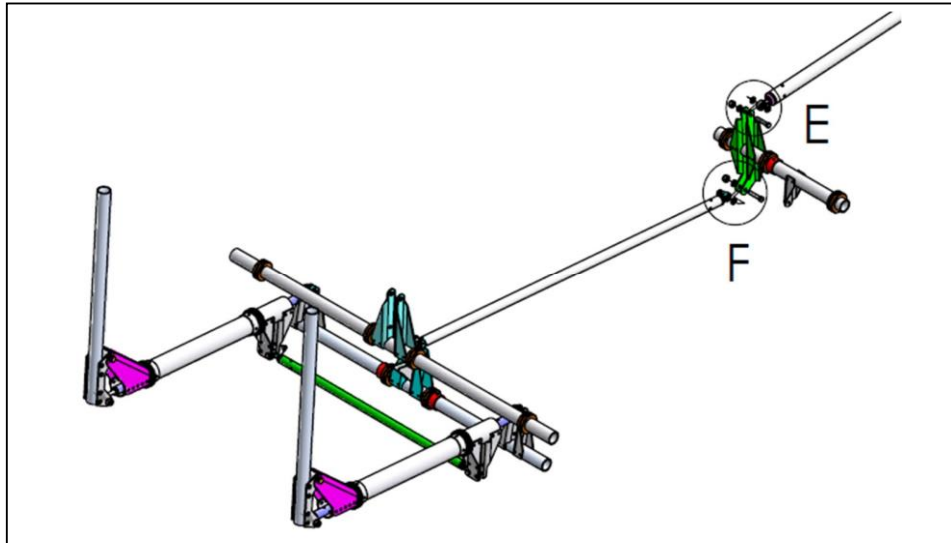

Figure 26
- Step 8. Next, the eyebolts seen in Detail E and F in Figure 26 will need to be inspected and replaced if found to be of *noncompliant*. To access these in the Sling 4 TSi, remove the rear seats. To do this follow the instructions in the applicable MAM shown in the table below: